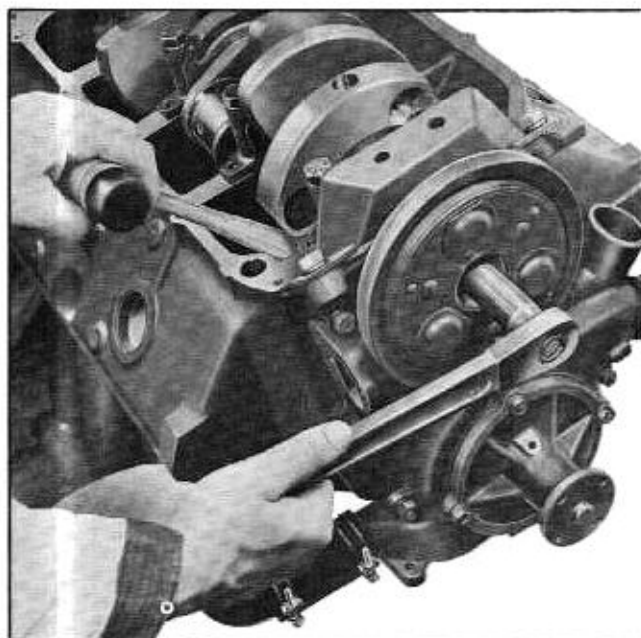

Fig. 6-39 Holding Crankshaft to Remove Harmonic Balancer
29. Remove harmonic balancer attaching screw and retainer, and slide balancer off crankshaft. A hammer handle placed between the block and the front counterweight of the crankshaft will hold the crankshaft while attaching screw is being removed (Fig. 6-39).
31. Remove fuel pump eccentric from camshaft. Place hammer handle between block and front crankshaft counterweight to hold crankshaft (Fig. 6-39).